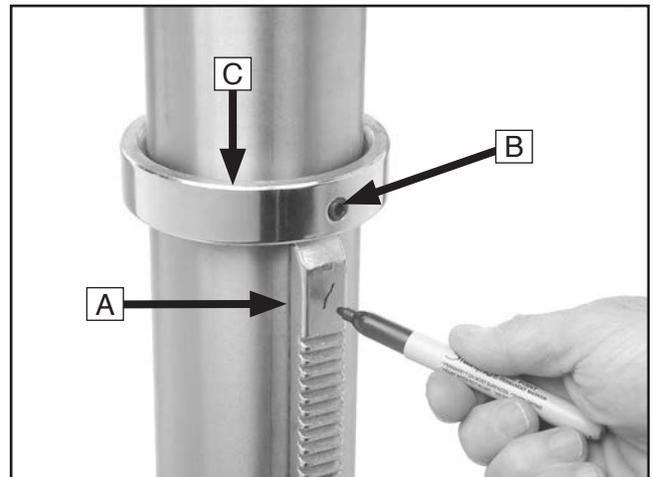

Figure 10. Example of marking top of rack.
2. **T34611 Only:** Mark the top of the rack (see **A** in **Figure 10**), to keep track of which end is up.
3. **T34611 Only:** Loosen the set screw (see **B** in **Figure 10**) to remove the column collar (see **C** in **Figure 10**).